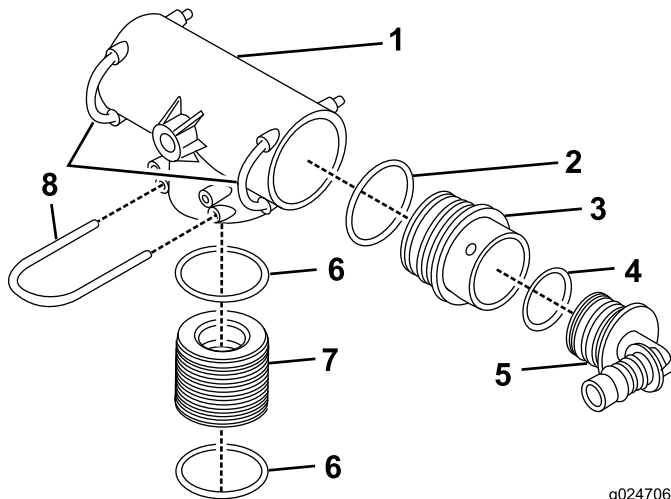

**Figure 25**
2. Install the tee assembly to the tee mount on the bottom left side of the rear of the machine (Figure 25).